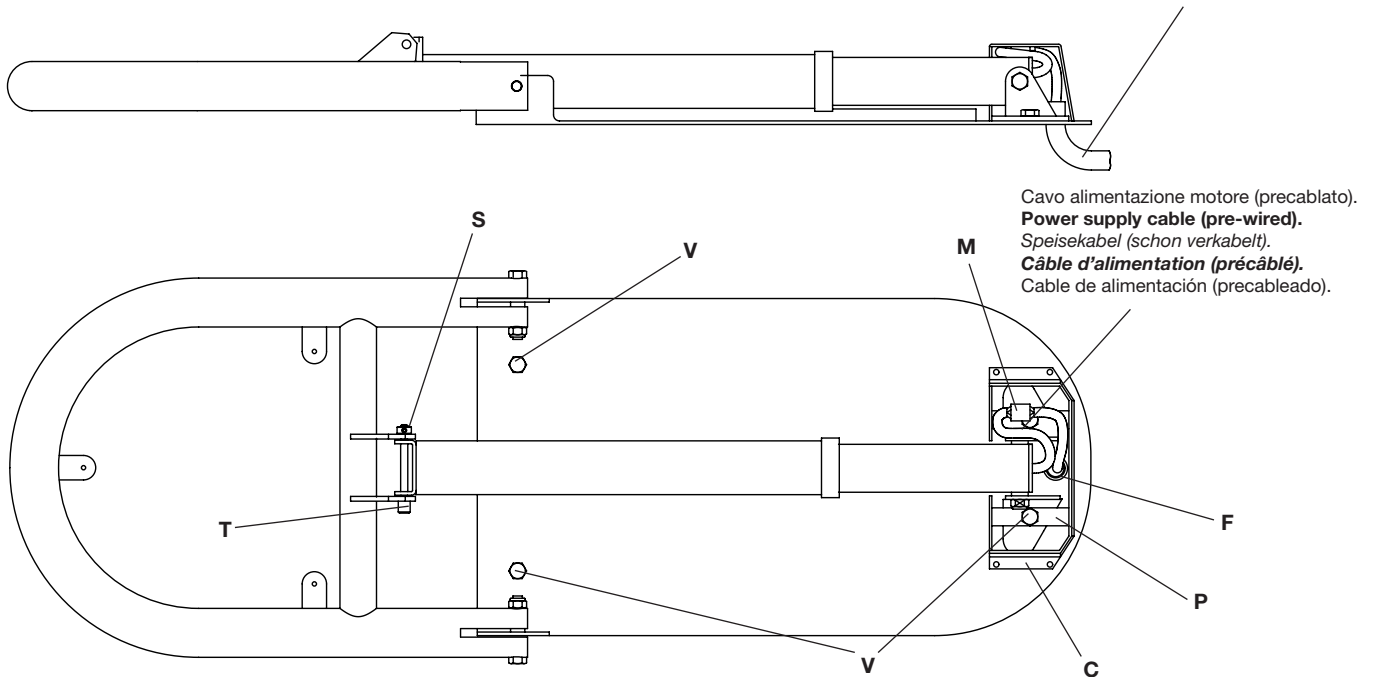

Fig.1
1. Installazione (fig. 1)
2. Sblocco manuale (fig. 1)
3. Urto accidentale (fig. 1)
1. Installation (fig. 1)
2. Manual release (fig. 1)
3. Accidental hits (Fig. 1)
1. Installation (Abb. 1)
2. Manuell entschichern (Abb. 1)
3. Zufällige Stöße (Abb. 1)
2. Débloqué manuel (fig. 1)
3. Choc accidentel (Fig. 1)
1. Instalación (fig. 1)
2. Desbloqueo manual (fig. 1)
3. Choque accidental (Fig. 1)